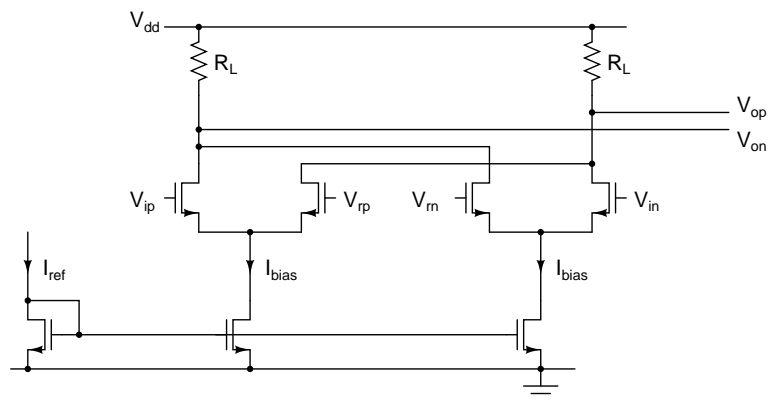

Figure 4: Preamplifier
- The current sources in the comparators should be realized using MOS transistors (e.g. Fig. 4). You can use ideal current sources to supply the reference branch current.
A differential difference preamplifier is shown in Fig. 4. The differential voltage  $V_{ip} - V_{in}$  is compared to  $V_{rp} - V_{rn}$ . In this design, the common mode voltages of the input and the reference voltages need to be equal. The differential output is positive if the input is larger than the reference and negative otherwise.